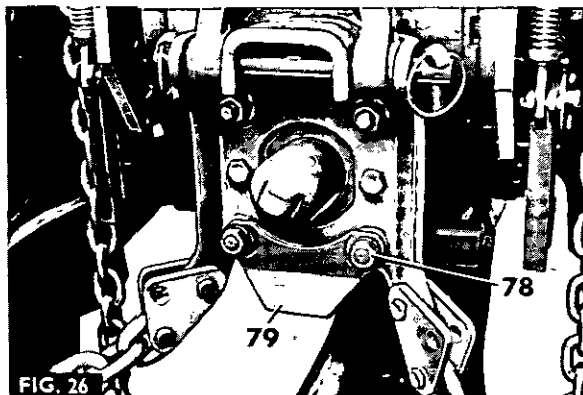

FIG. 26
29. Fig 26. Remove the p.t.o. shield (if fitted) then remove the two nuts (78) spring washers and spacers securing the bottom of the check chain anchor bracket.
30. Fit the hook stop plate (79) and the nuts and spring washers, discarding the two spacers.